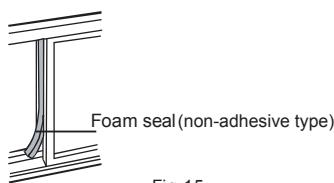

Fig.15
5. Cut the foam seal (non-adhesive type) to an appropriate length and seal the open gap between the closed side window sash and outer window sash. See Fig.15.